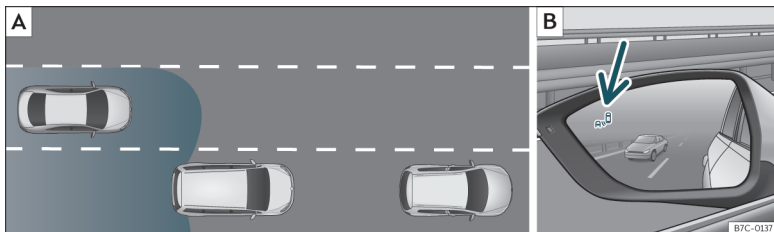

Fig. 222 Schematic diagram: [A] Passing situation with traffic behind the vehicle. [B] Indication from the blind spot detector in the left-hand external mirror.
The radar sensors are located on the left and right of the bumper and are not visible from the outside »» Fig. 221. The sensors monitor both the blind spot and traffic behind the vehicle »» Fig. 222, »» Fig. 223. The range to the sides of the vehicle is a bit larger than the width of a lane.
>>> **Fig. 222** [B] (arrow) or >>> **Fig. 223** [B] (arrow):
- When being overtaken by another vehicle >>> **Fig. 222** [A].